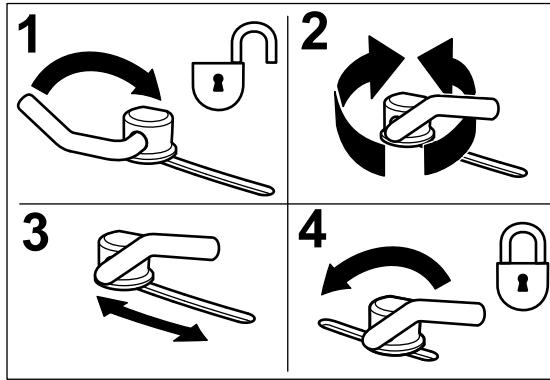

Figure 15
1. To adjust the cam locks, swing the lever up to loosen the cam lock (Figure 15).
3. Swing the lever back over to tighten the baffle and cam locks (Figure 15).